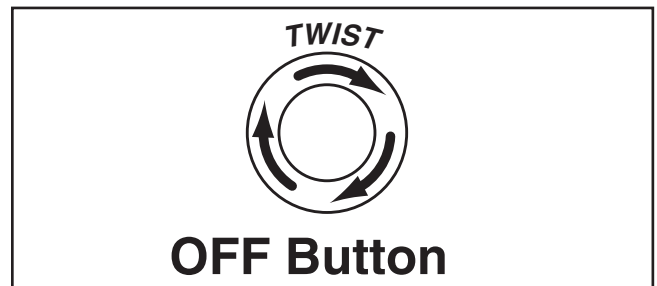

Figure 49. Resetting the switch.
6. Push the OFF button in, then twist it clockwise so it pops out. When the OFF button pops out, the switch is reset and ready for operation (see **Figure 49**).